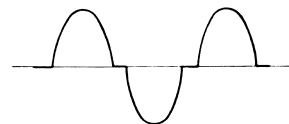

FIG. 6—CROSSOVER DISTORTION.
3. The base to emitter voltage on the Class B output transistor should be 0.1 to 0.17 volts. Low voltage will give what is termed "Crossover Distortion" and is most noticeable on low volume (see Fig. 6). If the bias voltage cannot be measured accurately check the collector currents in the output stage. These should be between 0.5 and 1 mA for each transistor. Note that the thermistor is temperature sensitive and if heated should be allowed to cool to room temperature before making bias measurements.